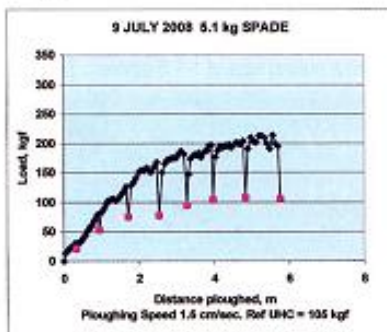

Fig. 4 - plot of DHF & SHF against distance ploughed for 5.1kg Spade anchor
**The Actual Tests** - A typical example of how the SHF and DHF behave when an anchor is pulled, is shown in Fig. 4 for the 5 kg Spade. The black diamonds represent the DHF-values taken every 5 or 10 seconds, while the red squares represent the SHF-values when the winch has been locked and the tension allowed to fall to its steady value. Both SHF and DHF rise towards steady plateau values. The final plateau value of the SHF is the UHC of the anchor, 105kgf in this instance.
Since the UHC of any particular anchor type increases roughly with its weight, it is convenient to represent an anchor's "Efficiency" by the ratio (UHC/Weight). The Efficiency of the 5.1 kg Spade as shown in Figure 4 is therefore  $(105/5.1) = 20$ . When this is normalized to the standard UHC of 120kgf for the SPADE, the "Normalized Efficiency" becomes  $(105/5.1) \times (120/105) = 25$ .